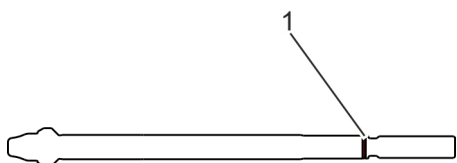

Fig. 27: Replacing the O-ring
15. ▶ Remove the O-ring (Fig. 27/1) from the stem.